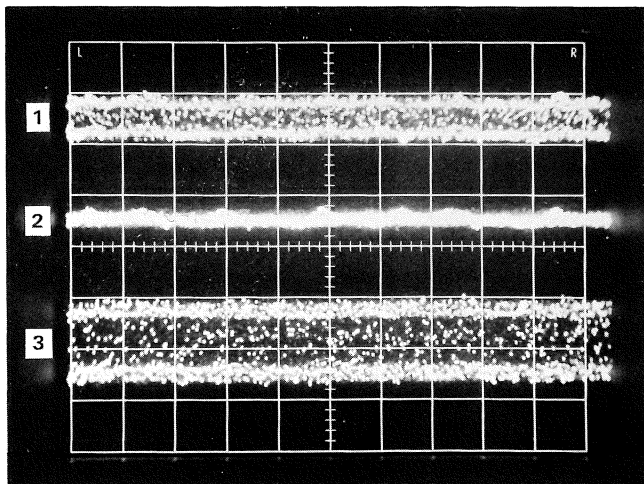

Fig. 6-7. Display for checking sampling head noise.
g. Turn the variable attenuator control throughout its range and obtain a display of two traces (see Fig. 6-7 display one).
h. Adjust the variable attenuator just to the point where the two traces blend together and appear as one trace (see Fig. 6-7 display two).
j. CHECK FOR—The bottom edges of the two traces separated no more than indicated in Table 6-4. (See Fig. 6-7 display three.)